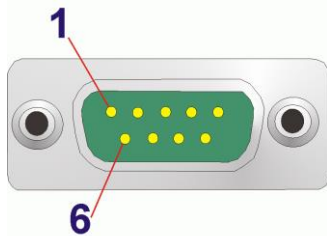

Figure 3-43: COM1 Serial Port Pinout Locations
- CN Location:** See **Figure 3-43** and **Figure 3-444**